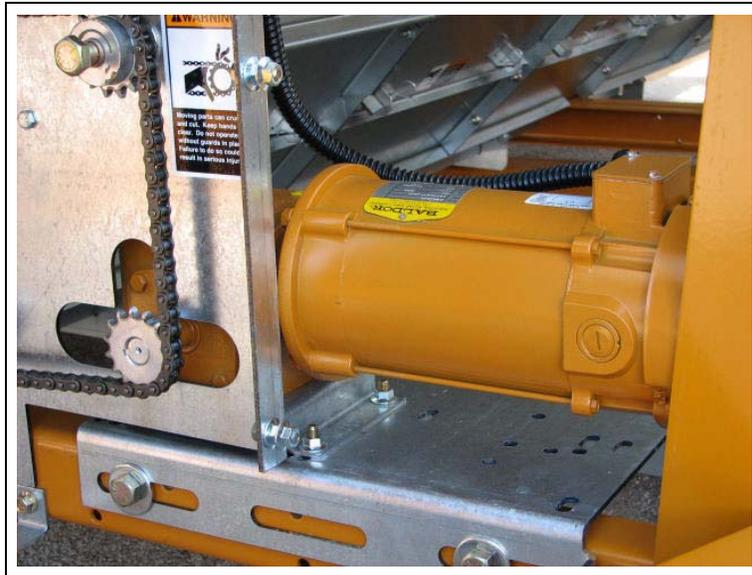

Figure 7F Meter Roll Motor and Speed Reducer Gear Box for the Metering Rolls.
This dryer is equipped with SCR (silicon controlled rectifier) metering roll drive assembly. The metering rolls are driven by a separate DC type electric motor. The speed of the motor is variable and is controlled by an electric SCR control within the main control box. (*See Figure 7F.*)
- SCR speed control:** The control unit dial on the front of the control box regulates the speed of the DC motor which drives the metering rolls. (*See Figure 7F.*)
2. **DC electric motor:** The direct current (DC) motor provides the drive for the metering roll and is located on the front left hand side of standard model dryers. The output shaft of the motor is connected directly to the gear box assembly. (See Figure 7F.)
3. **Speed reducer gear box:** The direct drive gear box provides the required speed reduction, and transmits power to the metering rolls through a drive chain arrangement. The gear box does not require adjustment. The drive chain should also be periodically lubricated and tensioned as necessary. (See Figure 7F.)
4. **Unload auger time delay:** The delay controls the bottom auger system and causes the unload auger (and any connected auxiliary unloading conveyors) to continue operating for the programmed amount of time, even after the metering rolls stop. (See Figure 7F.)